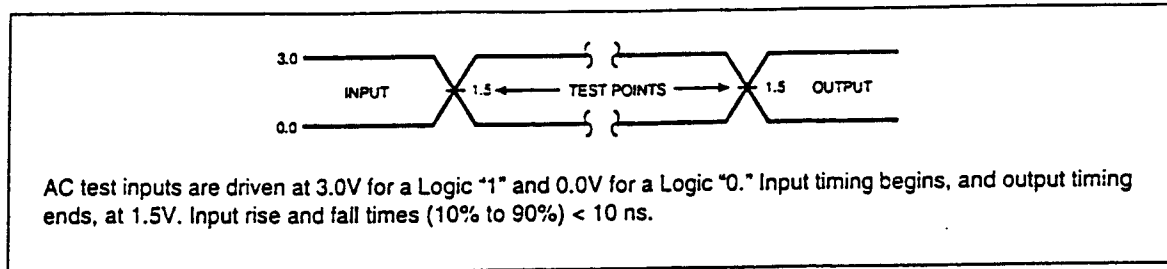

Figure 4. Transient Input/Output Reference Waveform ($V_{cc} = 3.3V$)
1. See AC Input/Output Reference Waveforms for timing measurements, Figure 4.